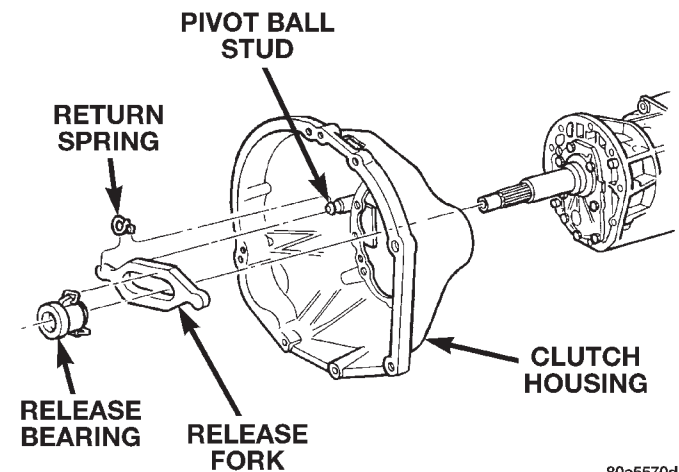

Fig. 4 Release Bearing Attachment
- (1) Remove transmission.
- (2) Disconnect release bearing from release lever and remove bearing (Fig. 4).
- (3) Inspect bearing slide surface of transmission front bearing retainer. Replace retainer if slide surface is scored, worn, or cracked.
- (4) Inspect release fork and fork pivot. Be sure pivot is secure and in good condition. Be sure fork is not distorted or worn. Replace release fork retainer spring if bent or damaged.